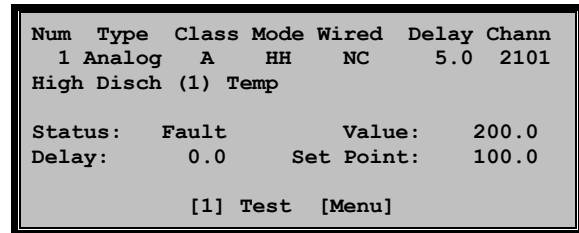

Figure 2–9
- (b) The CONFIGURATION screen (Figure 2–9) will be displayed.